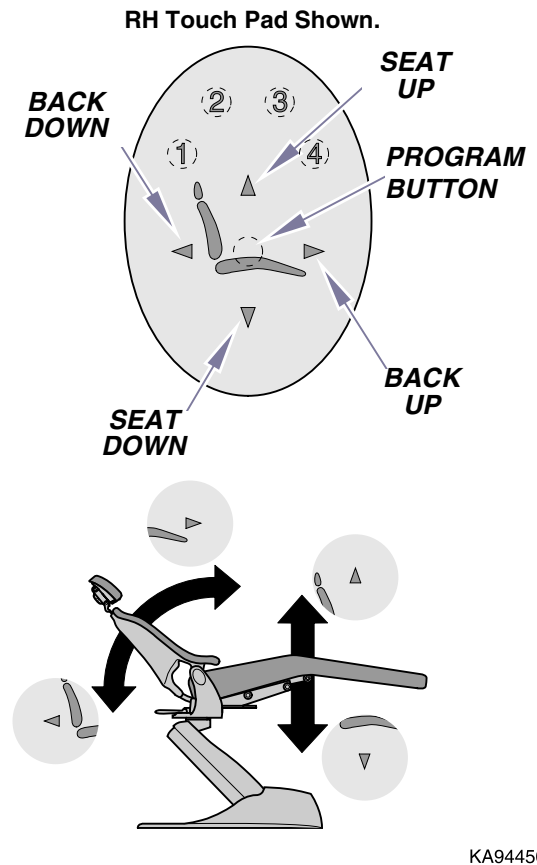

Figure 2-6. Manual Override
- (16) Check Manual Override using touchpad membrane switch or foot control. Depress and hold Program (P) button and then depress desired Manual positioning button(s) (Refer to Figure 2-6).